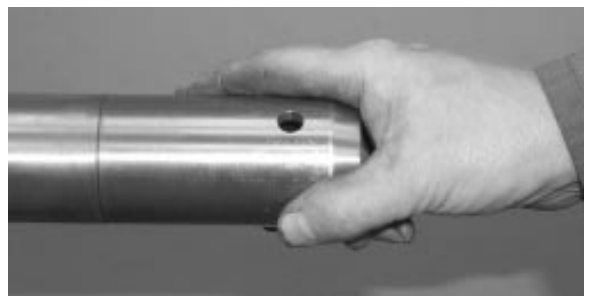

FIGURE 9: INSERTION TOOL
2. Screw insertion tool onto spindle (FIGURE 9).